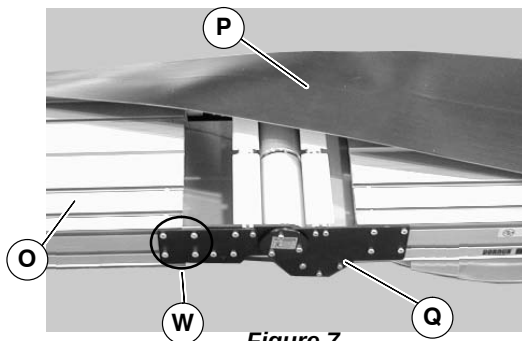

Figure 7
3. Roll out conveyor belt (P of Figure 7). Loosen (4) screws (W) on both sides of knuckle (Q). Slide frame (O) into knuckle (Q). Tighten screws (W) to 60 in-lb (7 N-m) on both sides of conveyor.